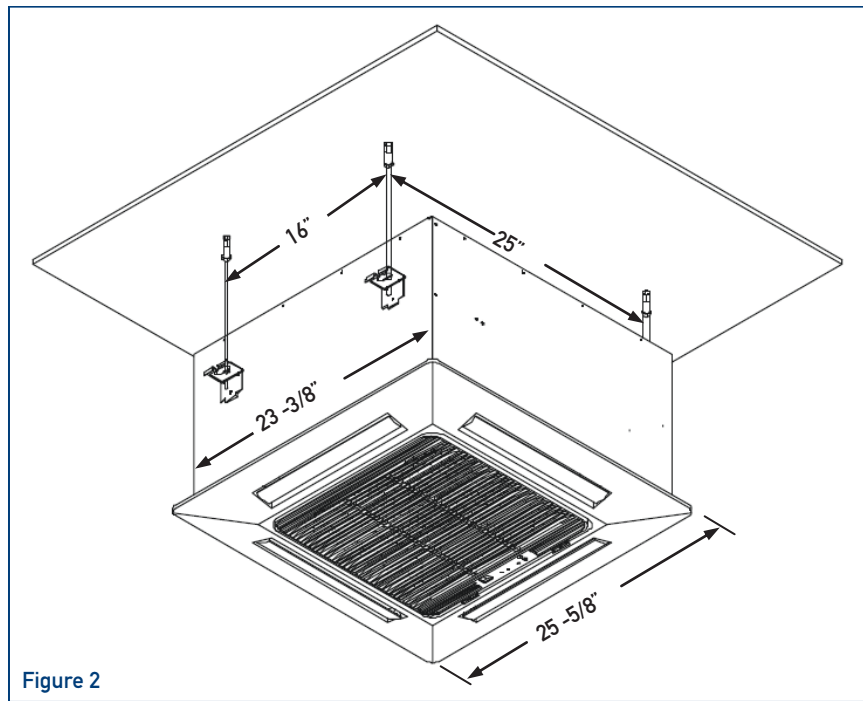

Figure 2
**Step 1** - According to Fig 2 drill four (4) #10 screw holes in ceiling.
**Step 2** - Insert the included threaded metal bars with expansion fitting into each of the four (4) holes. Then screw down the nut to secure the metal bars in the ceiling.
**Step 3** - Secure the four (4) metal bars to the associated mounting bracket on the unit.